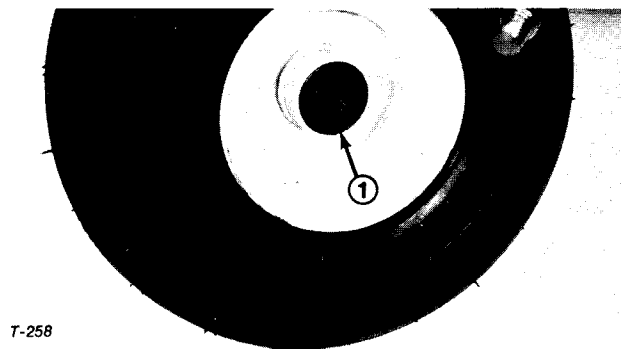

Figure 3
4. Pull the seal out of the wheel hub (Fig. 3).
7. Pack both bearings with grease. Install one bearing into the cup on inboard side of the wheel hub. Lubricate the inside of the new lip seal and press it into the wheel hub (Fig. 3).